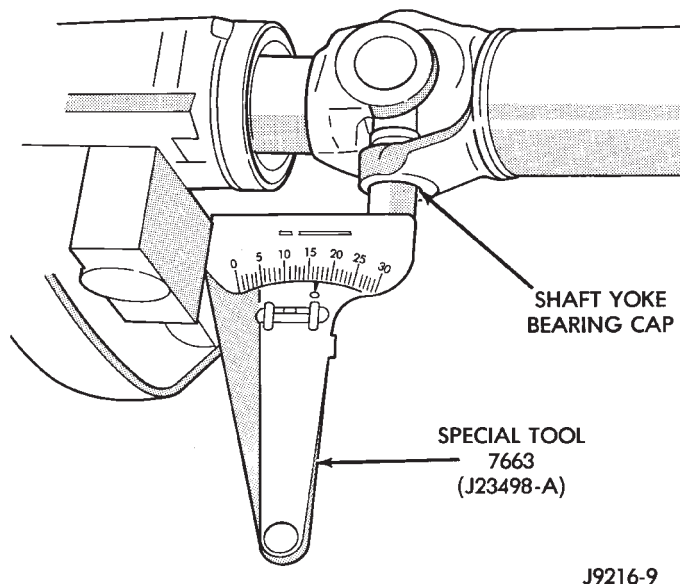

Fig. 9 Propeller Shaft Angle Measurement (C)
(3) Rotate propeller shaft 90 degrees and place Inclinator on yoke bearing cap parallel to the shaft (Fig. 9). Center bubble in sight glass and record measurement. This measurement can also be taken at the rear end of the shaft.